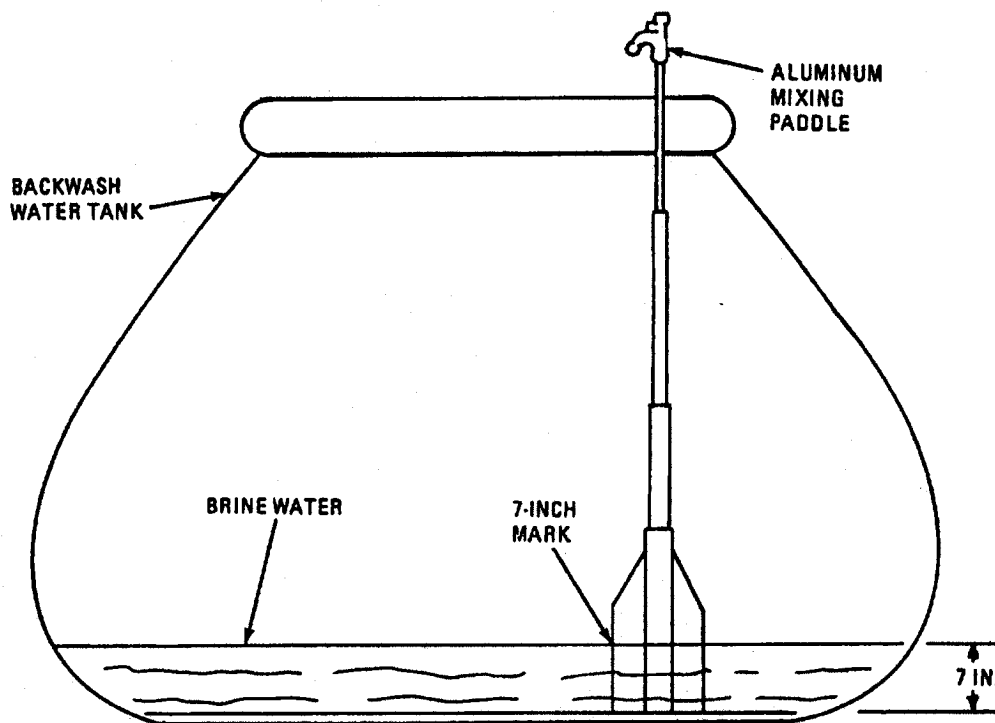

Figure 2-68. Backwash Water Tank Level.
- (5) Using telescopic aluminum paddle, measure water level in backwash tank (figure 2-68). When water level is seven inches in backwash tank, set ELEMENT CLEANING switch (24, figure 2-5) to OFF.
- (8) Mix the amount specified on the low pH membrane cleaner label according to the amount of water remaining in the backwash water tank when drained to the 7" mark. Stir with aluminum paddle until all granules are dissolved (figure 2-68). **Example: If cleaner states** one pound per ten gallons and the tank holds 550 gallons when water is drained to the 7" mark. This would require 55 pounds of cleaner. If using the tank that comes with the Reverse Osmosis Element Cleaning and Preservation System (ROCEPS) NSN 4610-01-450-5022 that holds 50 gallons, only five pounds of cleaner would be needed.
(1) Perform steps (1) thru (7) in paragraph 2-13a.
(2) Mix the amount specified on the high pH membrane cleaner label according to the amount of water remaining in the backwash water tank when drained to the 7" mark. Stir with aluminum paddle until all granules are dissolved (figure 2-68). **Example: If cleaner states** one pound per ten gallons and the tank holds 550 gallons when water is drained to the 7" mark. This would require 55 pounds of cleaner. If using the tank that comes with the Reverse Osmosis Element Cleaning and Preservation System (ROCEPS) NSN 4610-01-450-5022 that holds 50 gallons, only five pounds of cleaner would be needed.
(3) Perform steps (9) thru (16) in paragraph 2-13a.
(4) After 5 minutes of operation, check pH (para. 2-15b) of water discharging back into brine tank; it should be near, but not above, 10.5.
(5) Continue checking pH to make sure pH is near, but not above, 10.5
(2) Pour in the contents of six 2 pound bags of bisulfite, if the ROWPU will be subject to freezing temperatures use NSN 6850-01-429-9840 Membrane Preservative instead. Mix the amount specified on the preservative label according to the amount of water remaining in the backwash water tank when drained to the 7" mark. Stir with aluminum paddle until all granules are dissolved (figure 2-68). **Example: If preservative states** one pound per ten gallons and the tank holds 550 gallons when water is drained to the 7" mark, this would require 55 pounds of preservative. If using the tank that comes with the Reverse Osmosis Element Cleaning and Preservation System (ROCEPS) NSN 4610-01-450-5022 that holds 50 gallons, only five pounds of preservative would be needed.